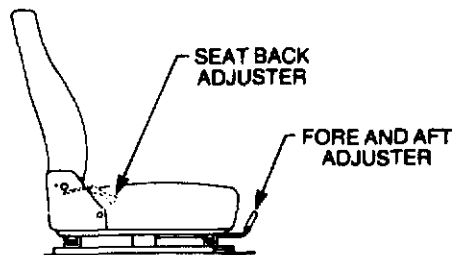

Figure 1-14 Seat adjustment
83. Cabin seating (Fig. 1-14)
The central cabin seat back can be tilted forward and utilized as a platform by the observer using the roof hatch, and the fore and aft movement can be adjusted as illustrated in Fig. 1-14.